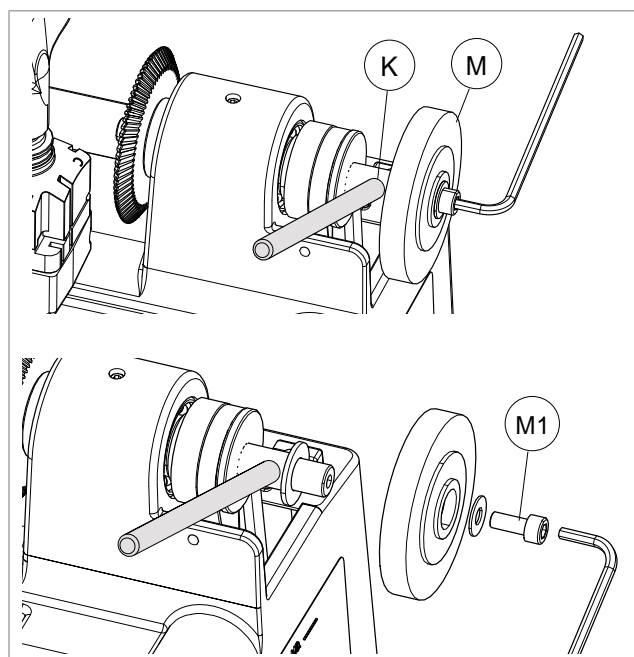

Fig. 30
- 2) Slot the locking rod (provided) into the hole (K) of the cutting tool shaft (Fig. 30).
- 3) Use the Allen wrench to loosen the screw (M1) holding the brush (M) in place (Fig. 30).
- 6) Install the protective cover (L) and secure with the 3 screws (L1).